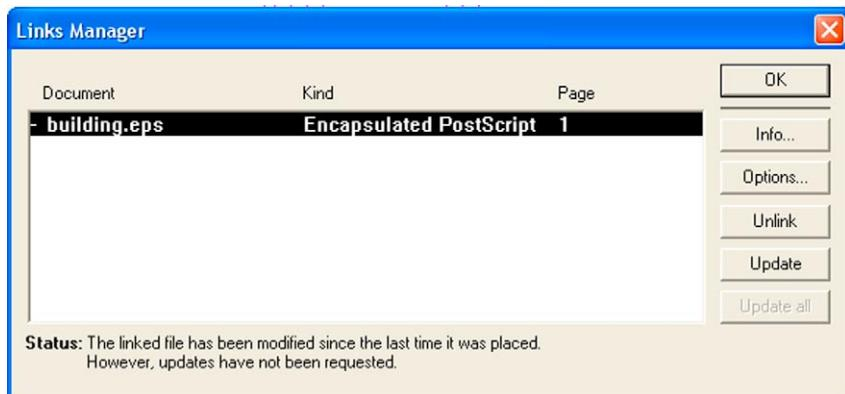

Fig. 10.5 The **Links Manager** dialog of PageMaker
Second example – EPS file (Fig. 10.5)
8. Go back into **PageMaker** and *click Links Manager...* in the **File** drop-down menu. The **Links Manager** dialog appears (Fig. 10.5). Against the name of the **building.eps** file name is a dash and a note at the bottom of the dialog explaining that changes have taken place in the drawing from which the *eps had been derived. *Click the Update button* and when the document reappears the drawing in PageMaker no longer includes the erased title.